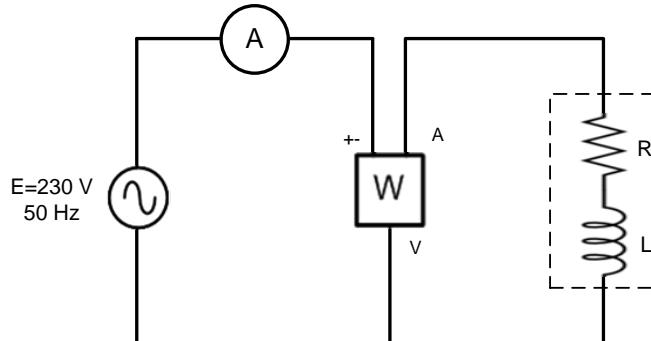

Figure 3.1
- (c) An unknown R-L load is connected to a single phase supply with $E=230V$, $50Hz$. An ammeter and a wattmeter are used to measure the line current and power of the circuit as shown in Figure 3.1. If the ammeter reading is 3.5 A and the wattmeter shows 540 W, calculate the following: